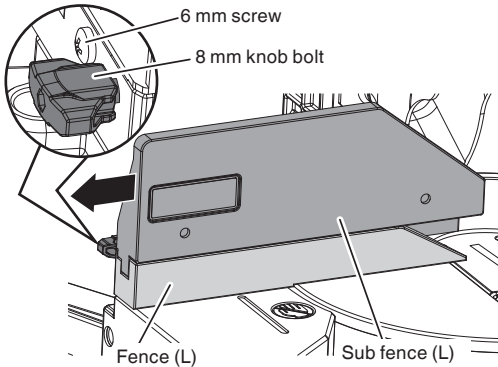

Fig. 12-b
When left bevel angle cutting, loosen the 8 mm knob bolt, then slide the sub fence (L) outward, as shown in Fig. 12-b.